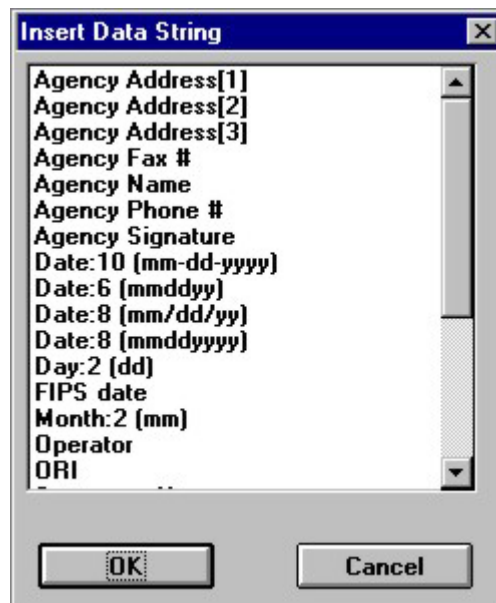

Figure 5.2 Insert Data String
3. The **Insert Data String** dialog box is displayed with the names of strings to select from in a list. A list of data strings is shown below in Figure 5.2.
4. The **Insert Data String** dialog box is displayed with the names of strings to select from in a list (reference Figure 5.2).